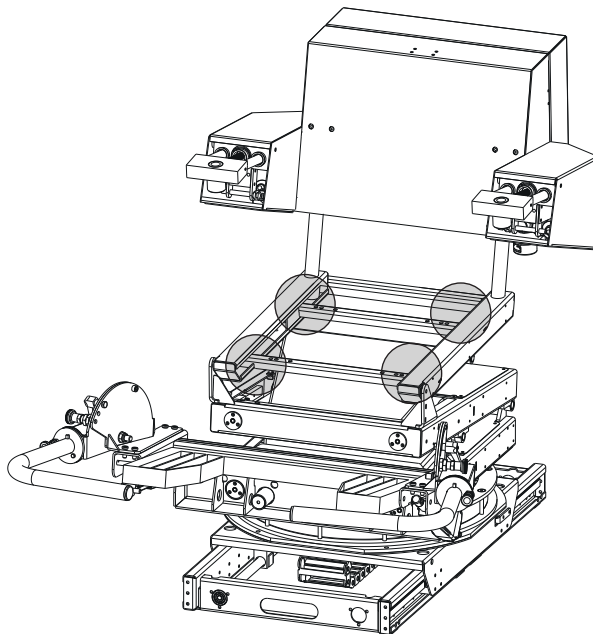

Figure 23. Lifting points
2. Fasten the lifting straps diagonally to at least 2 of the lifting points shown in Figure 23 .
5. Fasten the lifting straps diagonally to at least 2 of the lifting points shown in *Figure 23 „Lifting points“*, page 70.